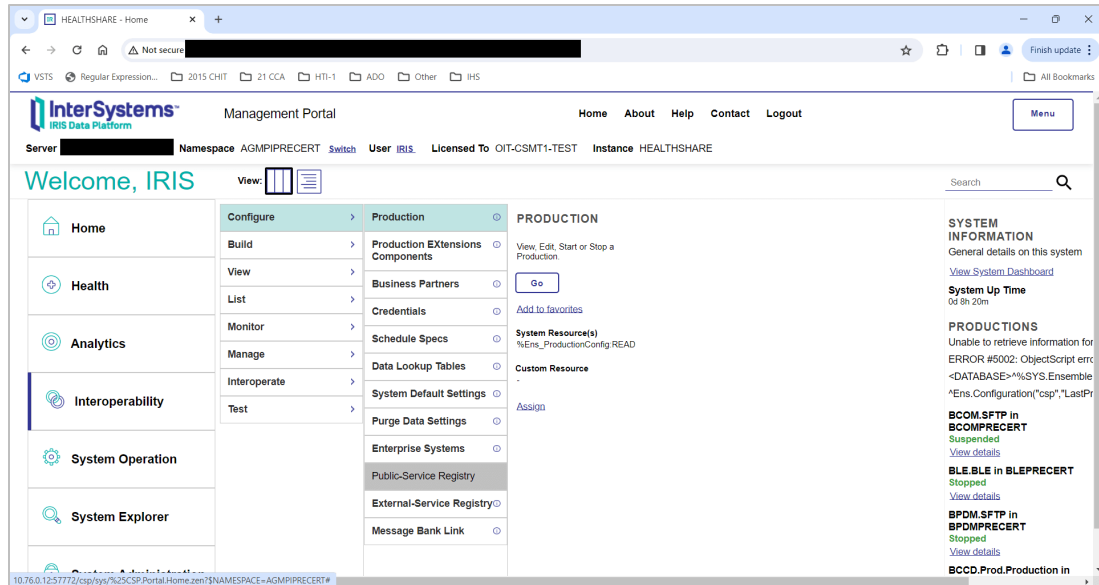

Figure 6-3: Management Portal page, Production option
4. Select **Interoperability** in the left column, then **Configure > | Production**, as shown in Figure 6-3.